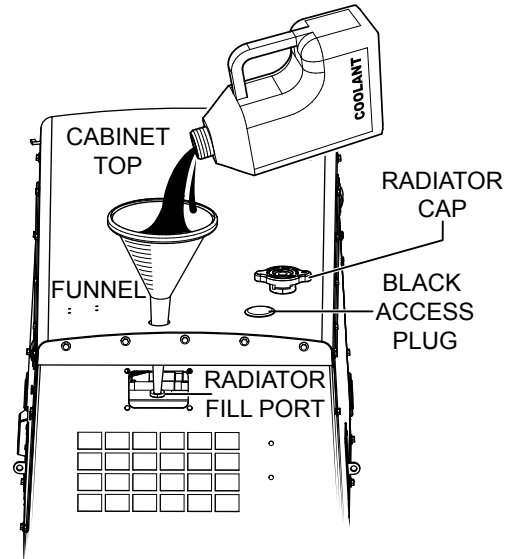

Figure 32. Adding Coolant
1. Remove the black plastic plug (Figure 32) on the top of the cabinet just above the radiator cap access hole opening.